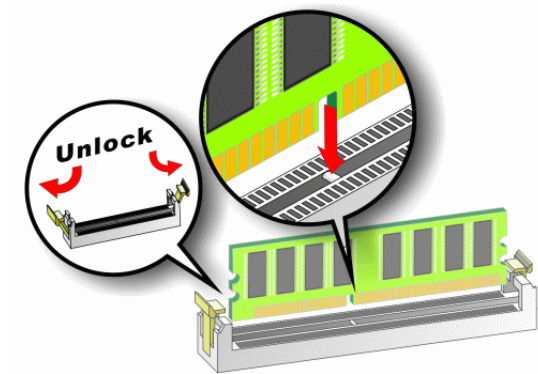

Figure 5-3: Installing a DIMM
To install a DIMM into a DIMM socket, please follow the steps below and refer to **Figure 5-3**.
- Step 1:** Open the DIMM socket handles. The DIMM socket has two handles that secure the DIMM into the socket. Before the DIMM can be inserted into the socket, the handles must be opened. See **Figure 5-3**.
- Step 2:** Align the DIMM with the socket. The DIMM must be oriented in such a way that the notch in the middle of the DIMM must be aligned with the plastic bridge in the socket. See **Figure 5-3**.
- Step 3:** Insert the DIMM. Once properly aligned, the DIMM can be inserted into the socket. As the DIMM is inserted, the white handles on the side of the socket will close automatically and secure the DIMM to the socket. See **Figure 5-3**.